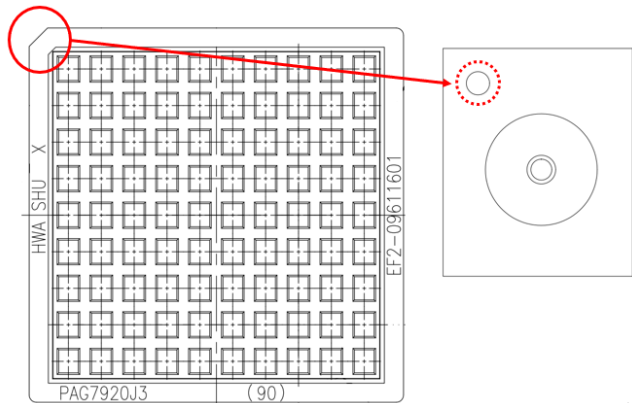

Figure 8. Module Orientation
- Cube module Pin 1 dot orientation is toward the chamfer of chip tray, see Figure 8.